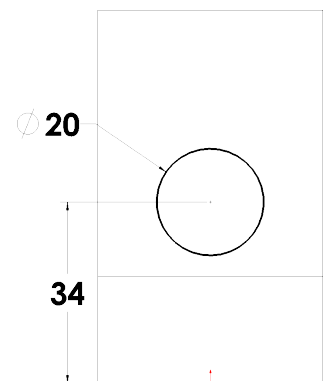

Fig. 10
Step 8. Click **Smart Dimension**  (S) on the Sketch toolbar.
Step 9. Add dimensions, Fig. 10.